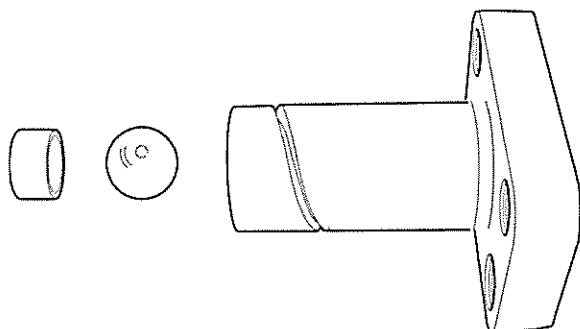

Fig 14 Lower swivel pin, ball and cup
- 14.2 Fix ball and ball cup in new swivel pin using standard grease, (see Fig 14).